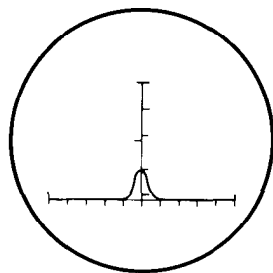

Figure 20
- () Set the 20 dB ATTEN switch at the IN position and observe the pip. The top of the pip should be approximately even with the 30 dB mark as shown in Figure 20. This adjustment calibrates the logarithmic amplitude scale.